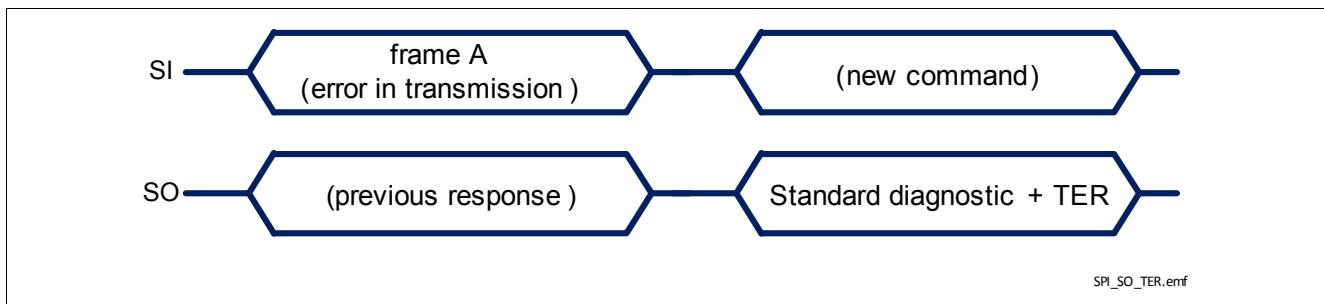

Figure 33 BTS56033-LBA response after an error in transmission
- in case an error in transmission happened during the previous frame (for instance, the clock pulses were not multiple of 8), shown in Figure 33